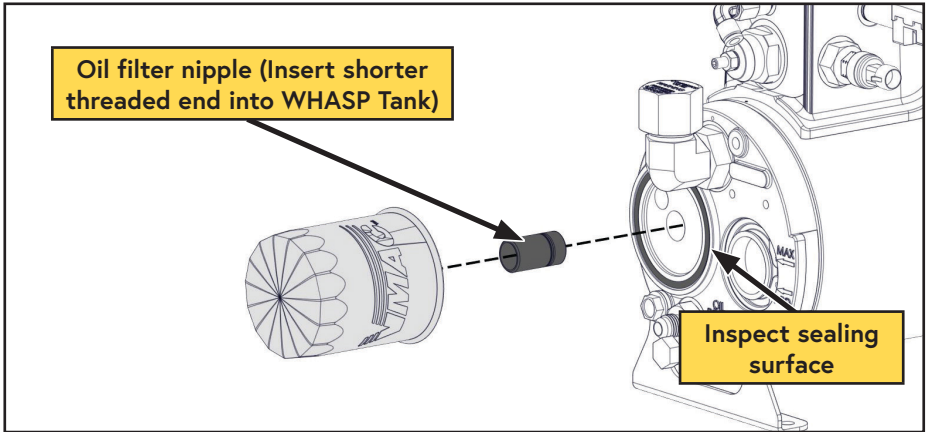

Figure 28 — Compressor oil filter
- *To reinstall the nipple, thoroughly clean the threads and apply Loctite 242 (blue) to the end with the short threads and replace it in the tank (Figure 28).
- Clean the gasket sealing surface on the front of the tank and inspect it for damage. The surface must be free of old gasket material and smooth to ensure a good seal (Figure 28).